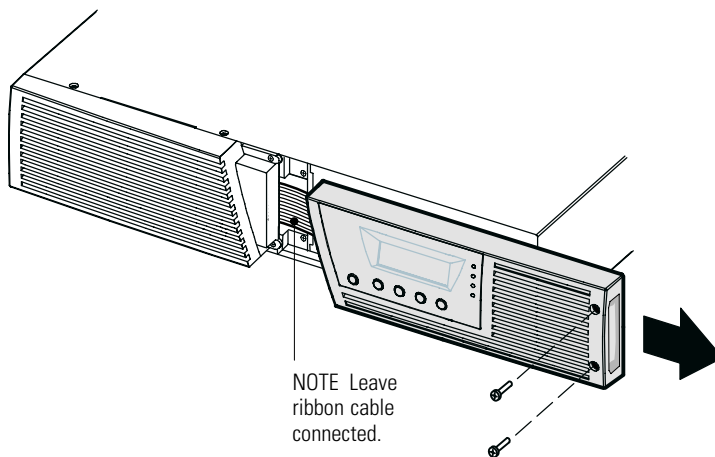

Figure 23. Removing the UPS Right Front Cover
1. Remove the UPS right front cover (see Figure 23).